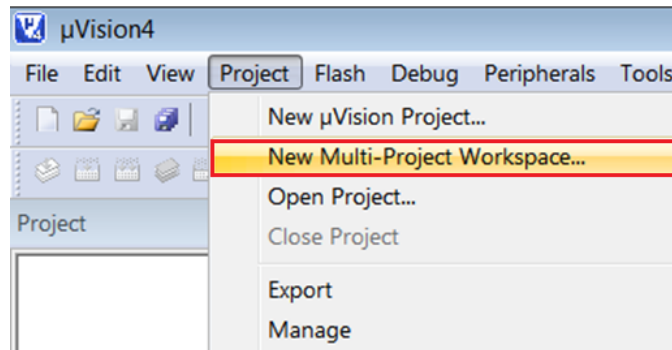

Figure 1.19: Keil IDE: Create New Multi-Project Workspace
2. Click Project → New Multi-Project Workspace (see Figure 1.19).